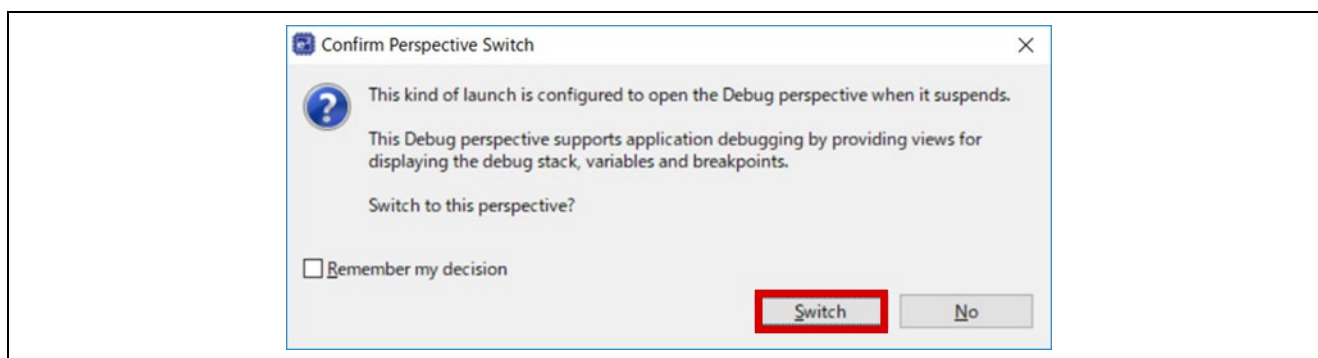

Figure 4-17. Confirm Perspective Switch
- When the debug perspective is opened, Program Counter (PC) should be located at the top of Warm_Reset_S function. Then, you need to press the button indicated by a red arrow in Figure 4-17: